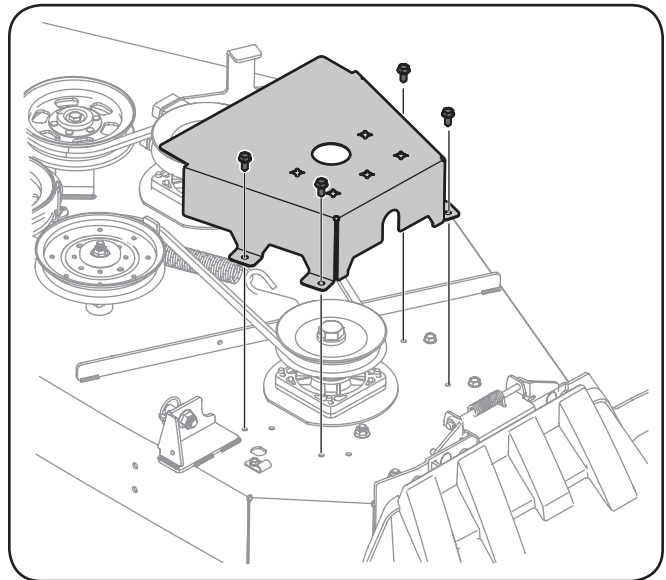

Figure 7-7
2. Remove the hex washer screws securing the belt covers to the deck. See Figure 7-7.
- Remove the two idler pulleys by removing the hex screws and flange lock nuts that secure them to the deck and the idler arm. See Figure 7-7. Do not lose any of the hardware when removing the hex screw and flange lock nut.
- Install the new belt around the spindle pulleys as shown and reinstall the belt covers. See Figure 7-7.